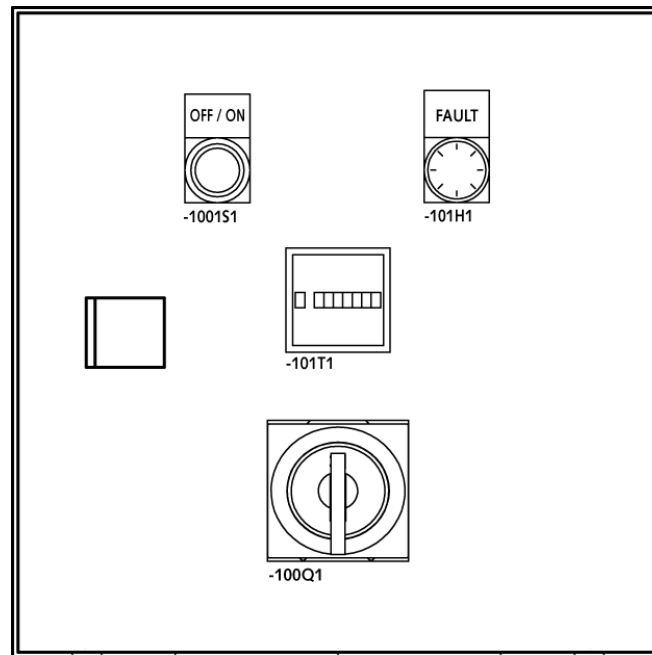

Fig. 9: Switch and control cabinet
- Set the main switch (100Q1, fig. 9) to “ON”.
- Press the pushbutton (101S1, fig. 9) on the switch and control cabinet.
- Set the main switch (100Q1, fig. 9) to “OFF”.